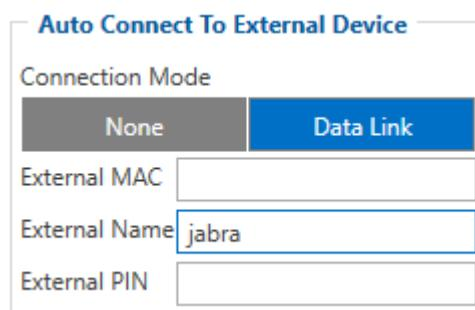

Figure 34 Auto Connect settings
6. Go to “SMS / Call Settings” in left menu and set “Incomming Call Action” to “Do Nothing” visible at Figure 34.